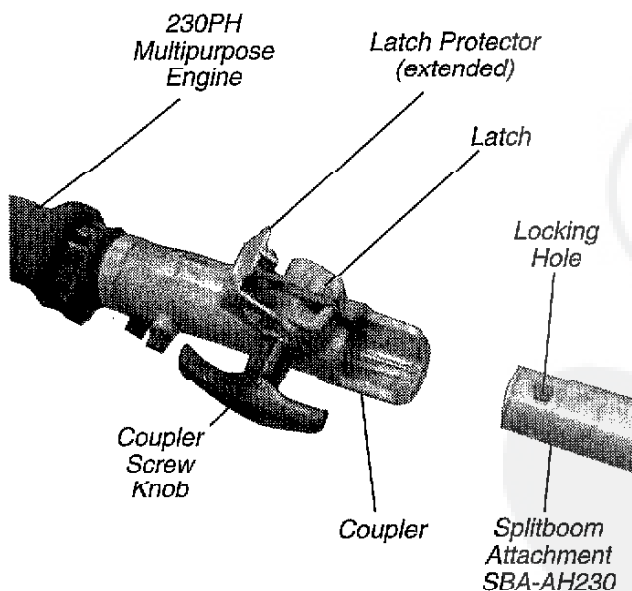

Figure 5
1. Place 230PH Multipurpose Engine and the Splitboom Attachment SBA AH230 on a clean, flat surface so that both assemblies fit end to end. The powerhead assembly should be facing up, and the Splitboom Attachment SBA-AH230 should be positioned with the locking hole in the tube end facing up. See Figure 5.
3. Insert the tube into the coupler, with the tool decal facing up, until the line of the decal is flush with the end of the coupler. Twist the tool back and forth until you are sure it snaps in place by the coupler latch. See Figure 5.